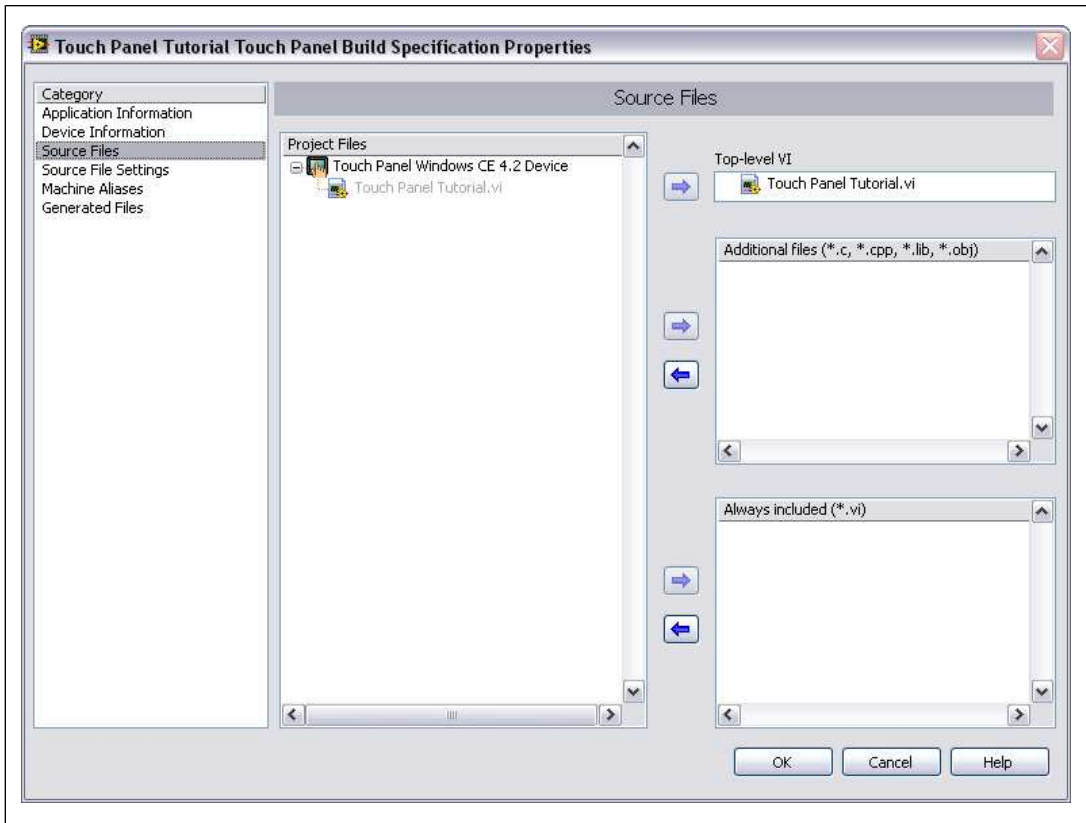

Figure 6. Selecting the Source Files
4. Select the **Source Files** category to select the source files to include when you build the VI into an application. When you use the Touch Panel Project Wizard to create a build specification, LabVIEW automatically uses the VI you import as the top-level VI. When you create build specifications outside of the wizard, you must manually select the top-level VI and click the blue arrow button to move the VI to the **Top-level VI** text box, as shown in Figure 6. Touch Panel applications can have only one top-level VI.